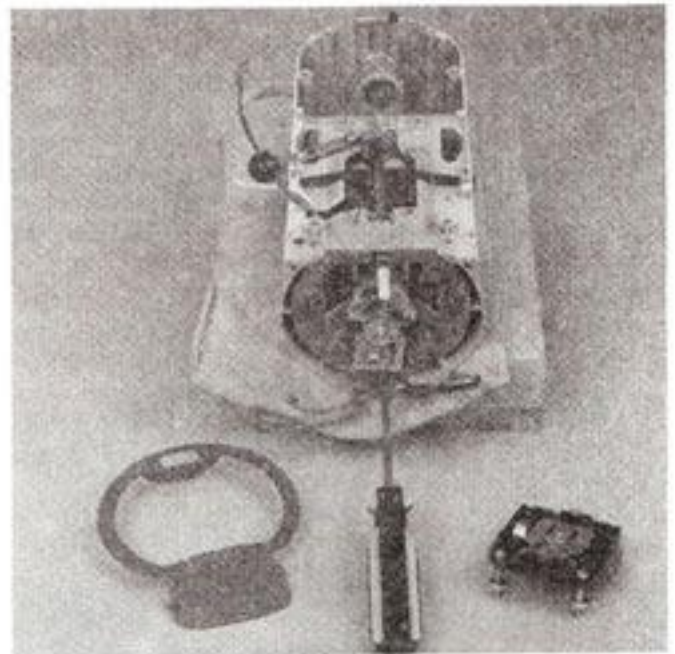

Fig. 49
N. If the phase control was removed or replaced, make sure the heat sink on the triac unit has sufficient amount of thermal conductive compound applied to that surface before assembling. Place the #4-40 x 1/4" pan head screw through the hole in the triac and screw it into the bearing bracket (Fig. 49) until it is tight (4-5 in. lbs.).